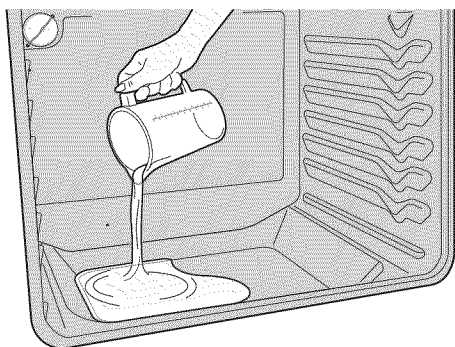

Fig. 1
3. Pour 8 oz (235 ml) distilled or filtered water onto the oven bottom (see Fig 1). Close the oven door.